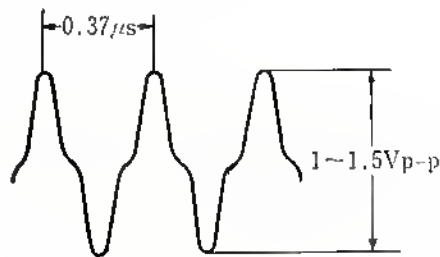

Fig. 49 Wave-form at TP304.
9. Confirm that the output of the differential wave-form of 2.7 MC at TP304 is between 1 V and 1.5 Vpp as shown in Fig. 49.